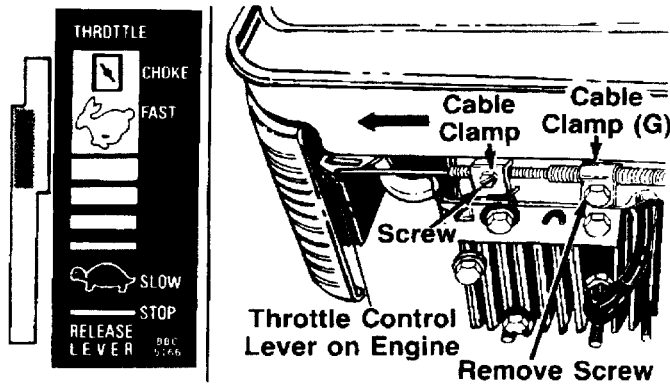
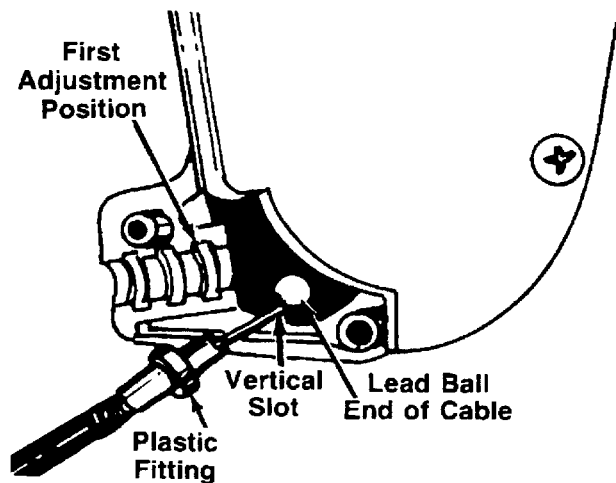

FIGURE 6A.—Briggs and Stratton Engine
FIGURE 7.
- 9A. Move throttle control lever on handle forward until it stops in FAST position. (**Do not** push all the way forward to CHOKE position.) See figure 6A.
- 11A. Using a 7/16" wrench, remove the screw on the engine shown in figure 6A. Remove the screw on the cable clamp shown in figure 6A. Slip the control casing under the clamp. Replace the screw, but do not tighten (cable must still move freely beneath the clamp).
- 12A. Slide the throttle control lever on the engine as far toward the **outside** of the engine as it will go **easily** (just until resistance is felt) as shown in figure 6A. (**Do not** force it into the extreme outside position, which is the CHOKE position). Tighten the screw to secure the throttle control cable in this position.
- 13A. Loosen the screw on the clamp on the side of the engine. Slip the cable casing under the clamp to secure the cable **away from the muffler**. Be careful not to bend or kink the cable. Tighten the screw. Secure cable casing to the front of engine with cable clamp (G) provided in hardware pack and screw removed from engine in step 11A. Do not overtighten.
- a. Place the lead ball end of the cable into the fitting provided in the end of the clutch control lever. Slip the braided wire into the vertical slot as shown in figure 7.
- c. Place the plastic fitting on the control cable into the first adjustment position in the clutch control housing. See figure 7.
When starting the unit for the first time, face the mower against a solid object such as a wall, fence, etc. Start the unit, and if it shows any signs of motion with the drive clutch control disengaged, shut the engine off immediately. Check the position of the drive clutch control cable. The plastic fitting must be assembled in the first adjustment position inside the housing, all the way to the right, as shown in figure 7.